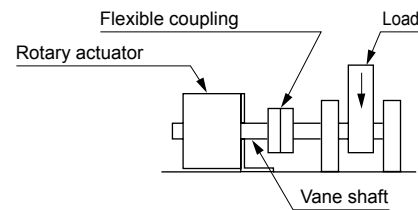

Fig. 2 Radial load
■ Avoid bending the end of the rotary actuator shaft or a malfunction may occur. When unavoidable, use a mechanism transmitting only rotation as shown in Fig. 2. When connecting the vane shaft end and load at any position in the oscillating range, use flexible couplings, etc., that will not twist off to prevent the vane shaft from breaking and bearings from wearing or seizing, etc.